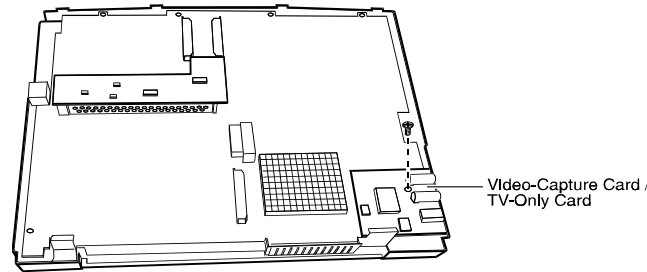

FIGURE 7-30. REMOVING THE VIDEO-CAPTURE/TV-ONLY CARD
10. REMOVE THE VIDEO-CAPTURE CARD OR TV-ONLY CARD BY REMOVING ONE SCREW. (SEE FIGURE 7-30).